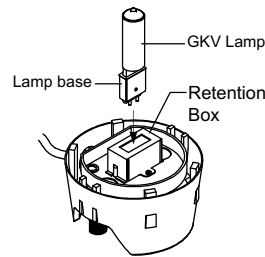
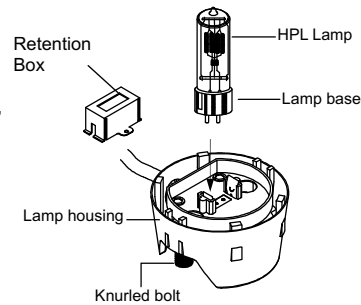

Figure 1
Figure 2
4. Line up the lamp base with the hole of the retention box as shown in **Figure 1**.
6. If your lamp is not same as **Figure 1**, and it is same as **Figure 2**, please remove the retention box. Then firmly insert the lamp into the socket by pushing the lamp base. (Not: Remain the retention box for the future)